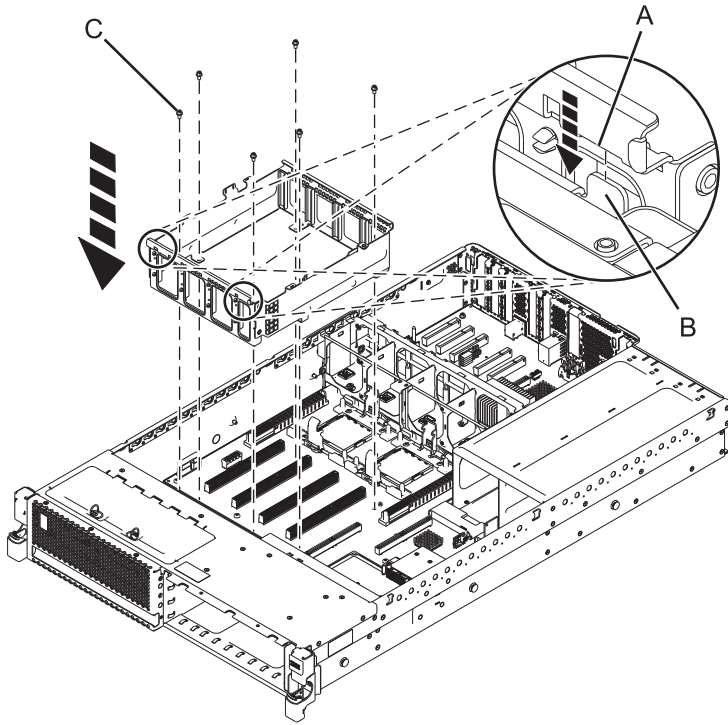

Figure 18. Replacing the DIMM cage
- a. Lower the DIMM cage into position ensuring that the DIMM cage alignment mark (A) and the alignment guide (B) are aligned. See Figure 18 on page 20.
- b. Insert and tighten the six screws (C) that secure the DIMM cage.